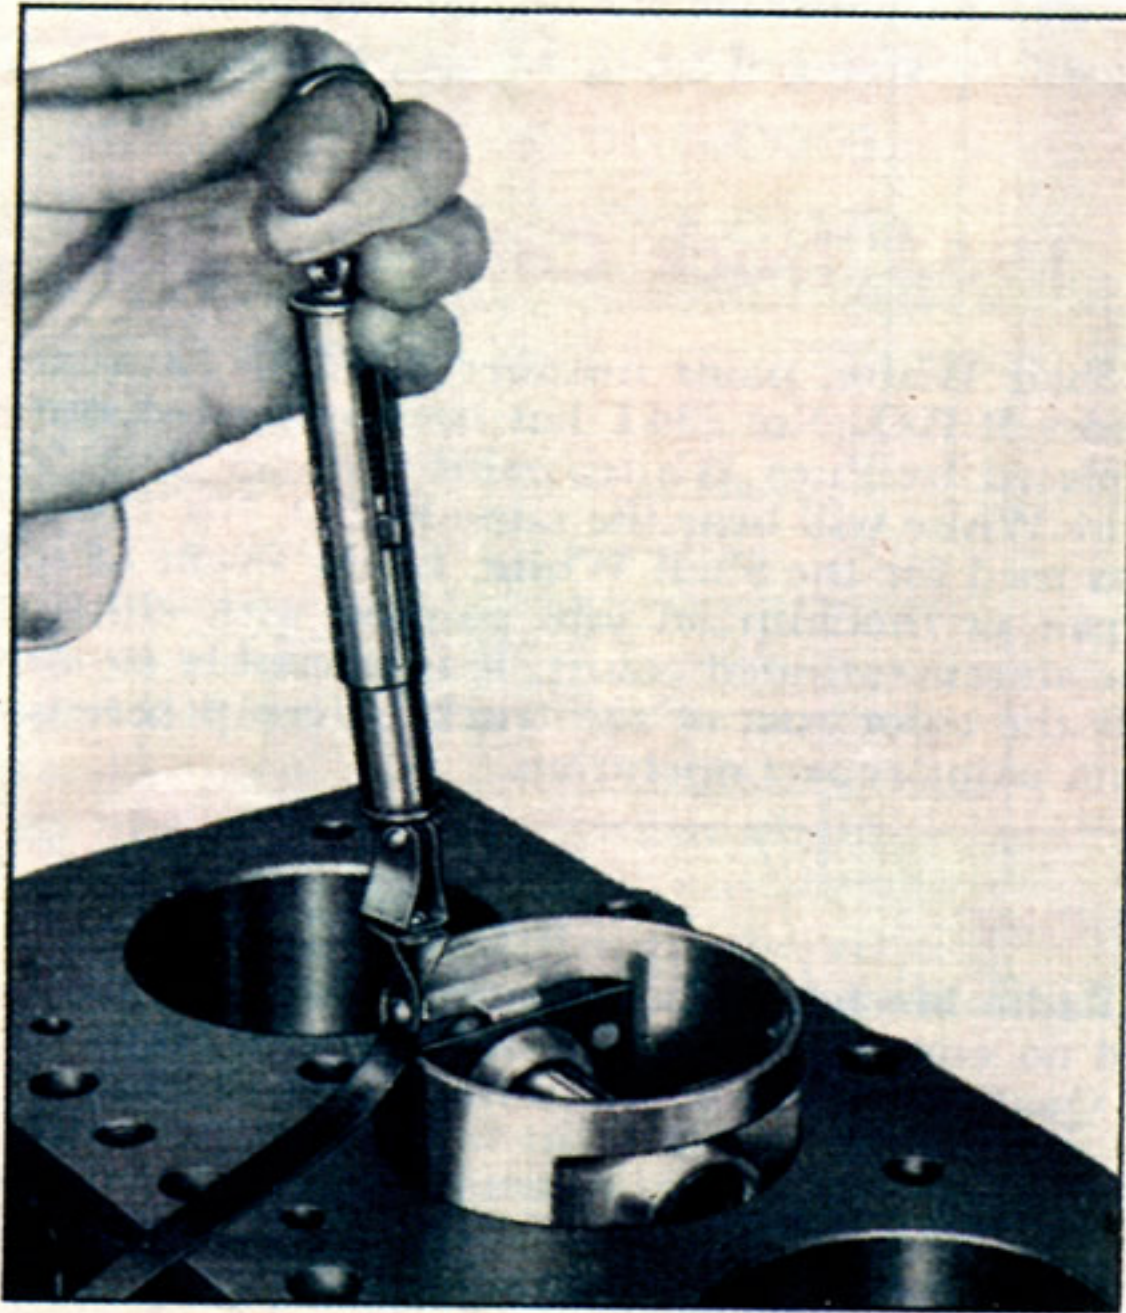

Fig. 2
3. Pull the feeler gauge straight up and out, noting at the same time the scale reading which should be between 7 and 18 pounds (fig. 2).